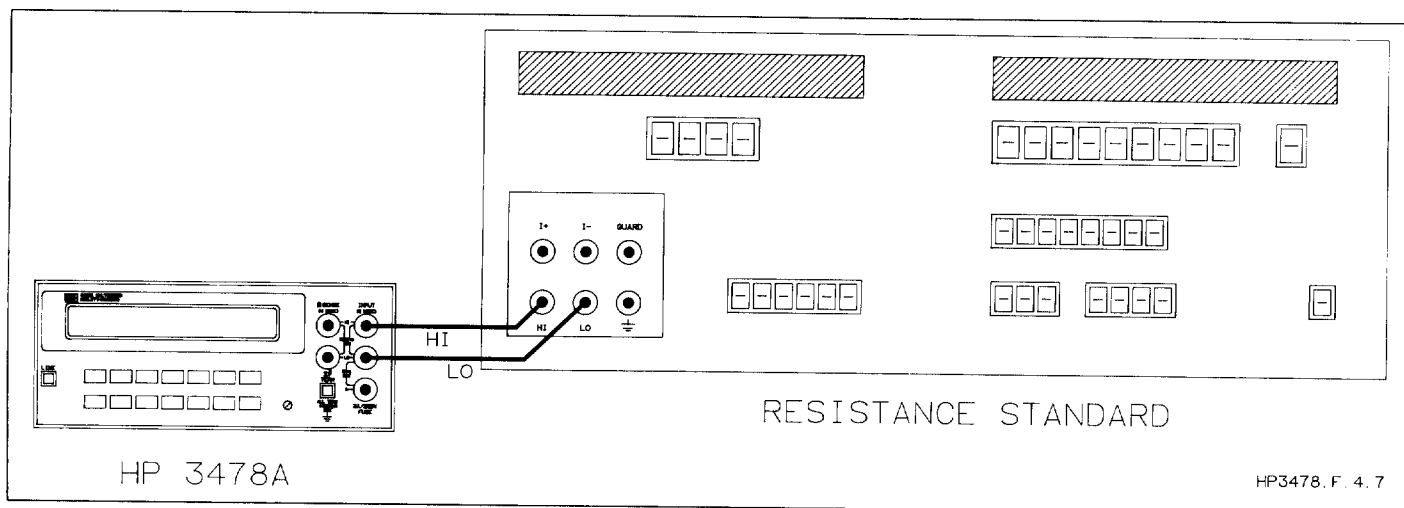
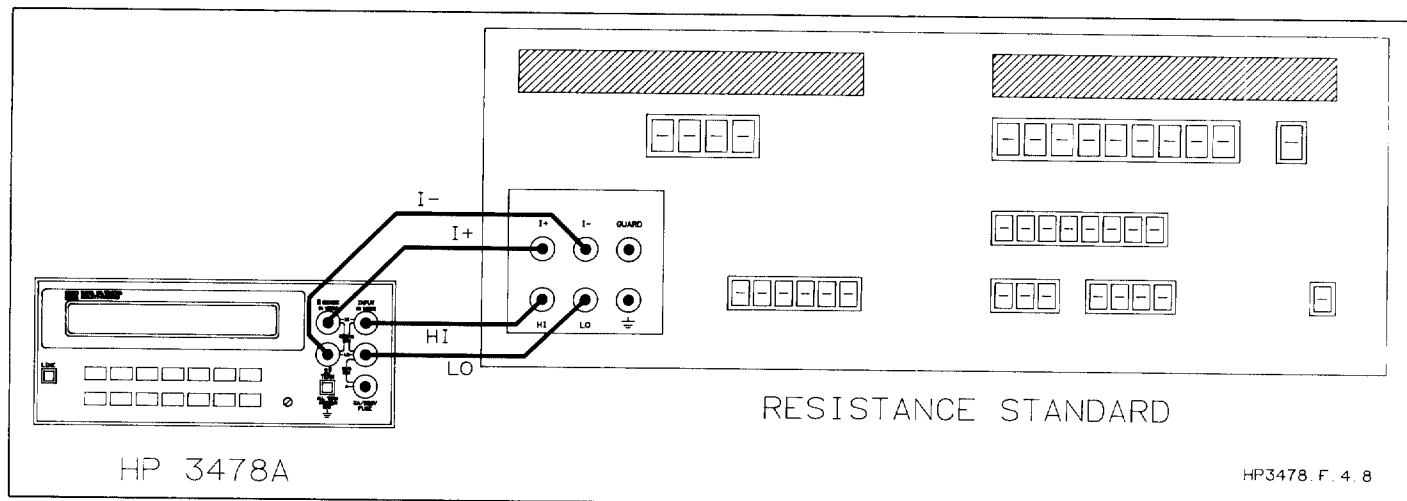

Figure 4-7. 2-Wire Ohms Test and Calibration Connections
Figure 4-8. 4-Wire Ohms Test and Calibration Connections
- 5) This Ohms Performance Test is written to support the recommended Resistance Standard. Figure 4-7 shows the test connections for 2-Wire ohms. Figure 4-8 shows the test connections for 4-Wire ohms.
d. (Step #9) Remove the short from the 3478A INPUT terminals. Set the 3478A to the 30 Ω range. Connect the Resistance Standard to the 3478A INPUT terminals (using either the connection shown in Figure 4-7 or 4-8, as appropriate).
4-80. If the calibration is to be done in the 2-Wire Ohms function, the Resistance Standard is connected to the HI and LO INPUT terminals as shown in Figure 4-7. If the calibration is to be done in the 4-Wire Ohms function, the Resistance Standard must be connected to the HI and LO INPUT terminals and the HI and LO SENSE terminals as shown in Figure 4-8.